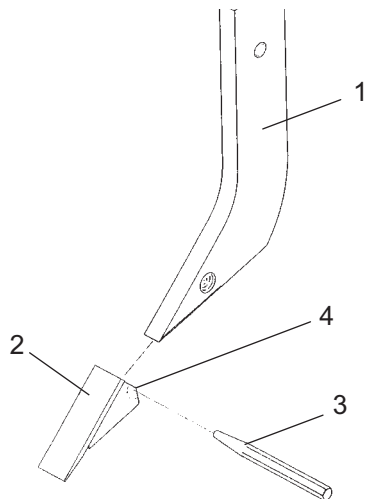

Figure 6. Scarifier Point Replacement
1. Remove scarifier shank (1) from the scarifier bar.
2. Remove the worn tooth by driving a chisel between the shank (1) and tooth (2) .
3. Install replacement tooth and use a punch (3) to bend the locking tab (4) into the retaining hole on both sides of the shank (see Figure 6).
4. Reinstall the shank (1) in the scarifier bar.